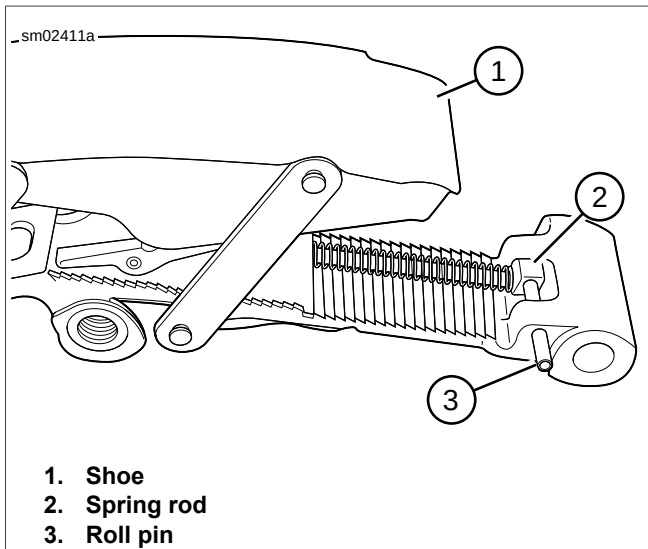
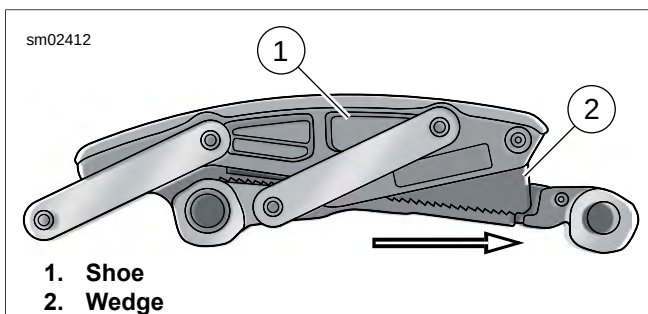

Figure 5-15. Spring Rod Location
Figure 5-16. Primary Chain Tensioner
- See Figure 5-15. Although primary chain tensioner is sold as an assembly, tensioner parts can be disassembled. If primary chain tensioner becomes disassembled, assemble in order shown.
14. Locate end of spring rod (2) on roll pin (3).
15. See Figure 5-16. Slide wedge of primary chain tensioner in direction of arrow until all travel is removed.